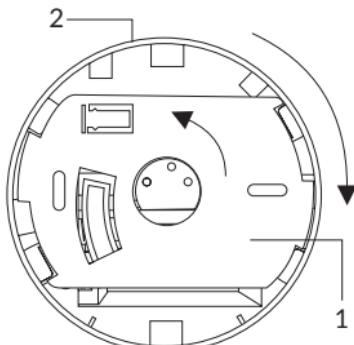

Fig. 2
- 6.1. Separate the mounting base (Fig. 2, item 1) from the device housing (Fig. 2, item 2) by turning it counterclockwise.